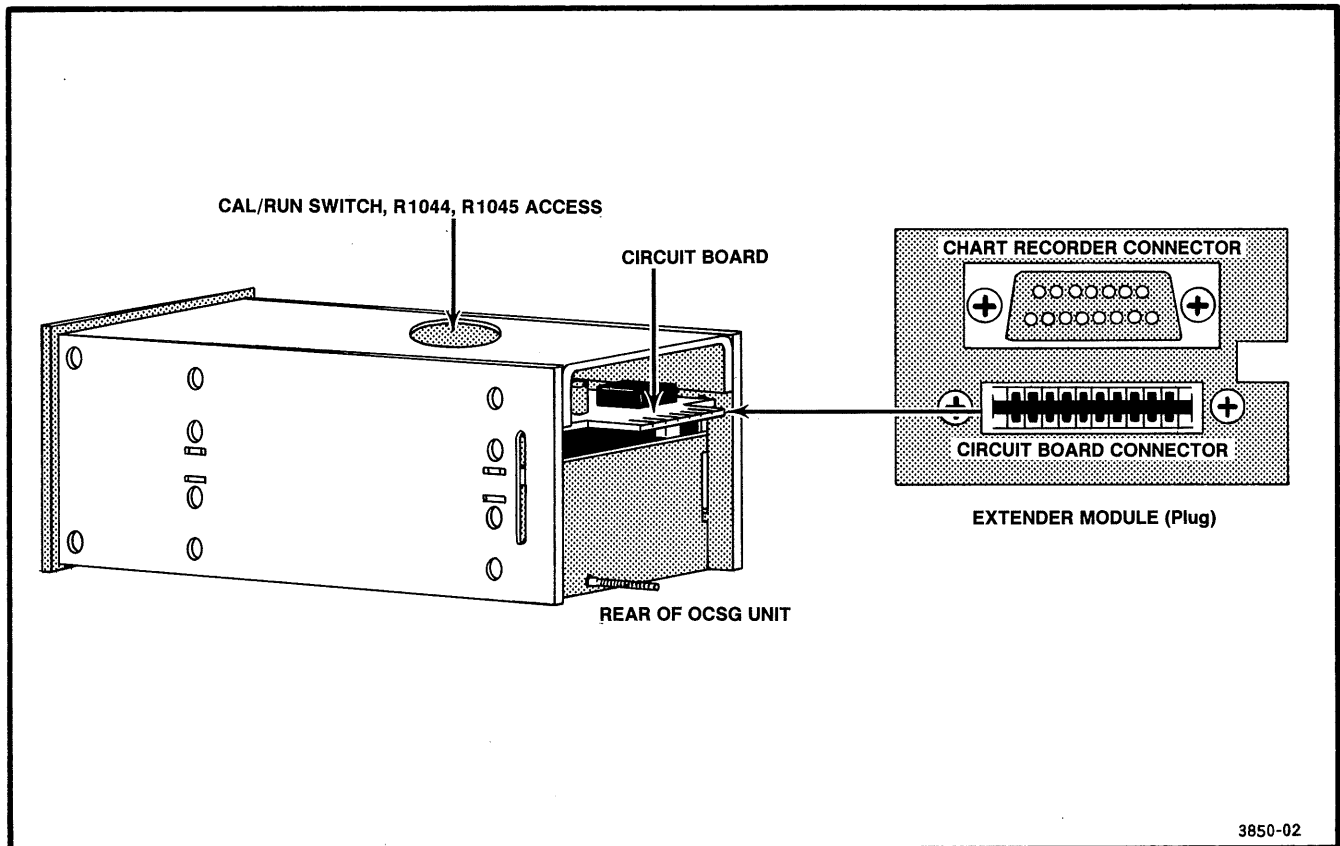

Fig. 2-2. OCSG to Extender Module cable connector.
3. Attach the Extender Module cable to the circuit board connector at the rear of the OCSG (see Fig. 2-2).
The circuit board connector is not keyed. When correctly connected to the Extender Module cable, the connector that is used with the chart recorder is located above the OCSG connector as shown in Fig. 2-2.